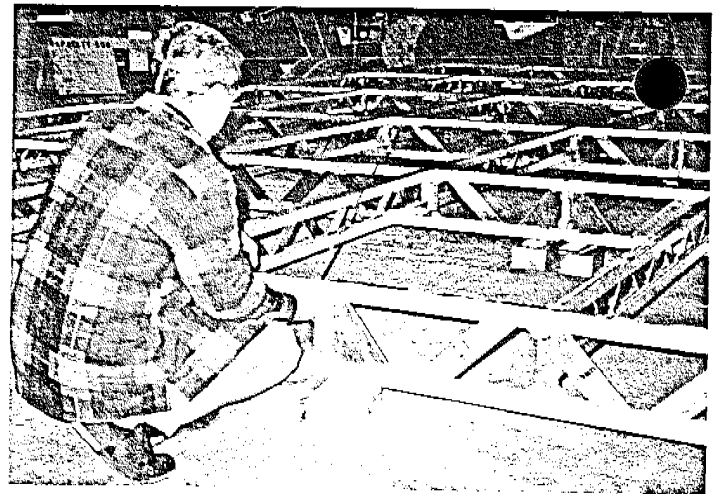

FIGURE 6
5. **ERECT OUTSIDE SECTION** of purlings. X square and level with transit. (See Figure 6).